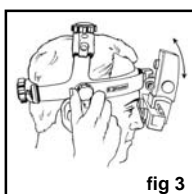

fig 3
For vertical alignment of the eyepieces and binocular block (R), adjust the height of the Metal Outer Brow Bar (C) if necessary by using the browband tension knobs (D) located on the sides of the headset (Fig 3).